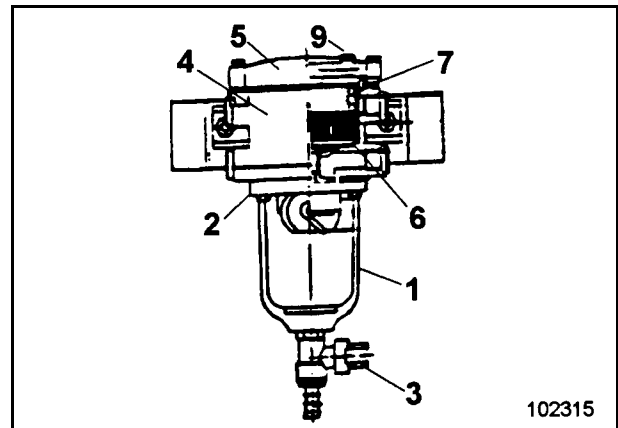

Fig. 3-47:
- Loosen venting plug (9, Fig. 3-47:) and leave drain valve (3) open until there is no more water in the diesel fuel flowing out of the valve.